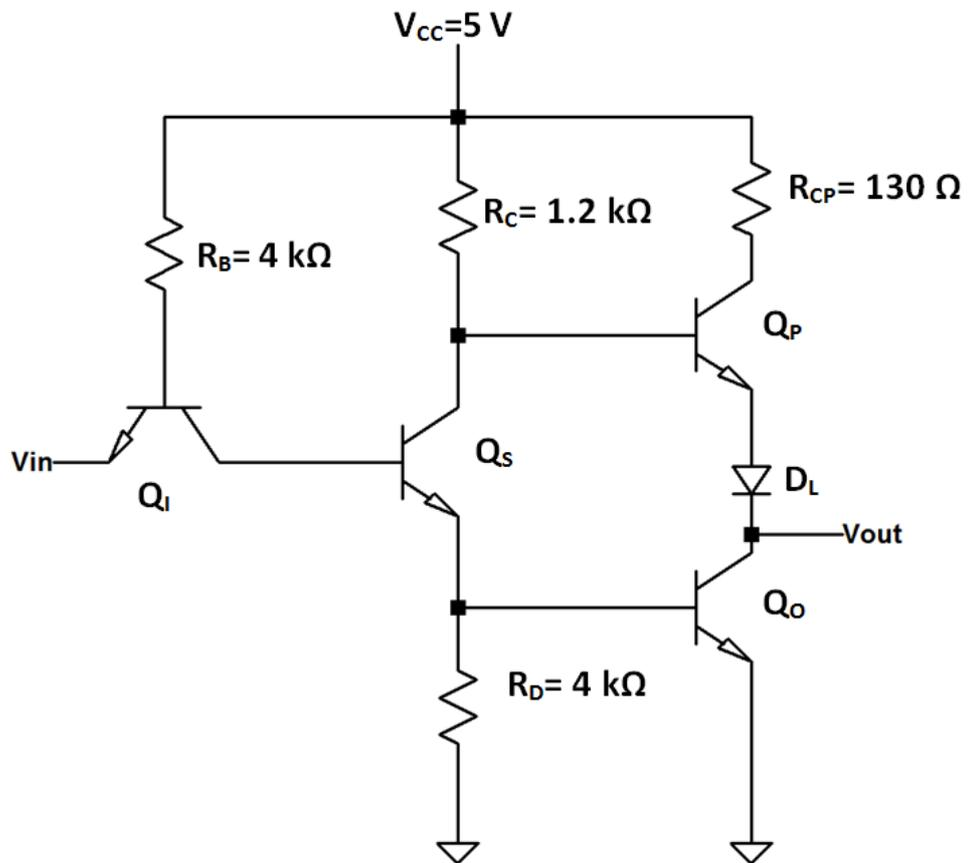

Fig. 2: The schematic view of a standard TTL inverter
- 5) Consider the standard TTL inverter given in Fig. 2. Assume that  $V_{BE(FA)}=0.7\text{ V}$ ,  $V_{BE(SAT)}=0.8\text{ V}$ ,  $V_{CE(SAT)}=0.2\text{ V}$ ,  $V_{BC(RA)}=0.7\text{ V}$ ,  $\beta_F=50$ ,  $\beta_R=0.1$ ,  $V_{DIODE(ON)}=0.7\text{ V}$ . Use  $\sigma_0=0.8$  (saturation parameter of  $Q_0$ ) for the output low state.